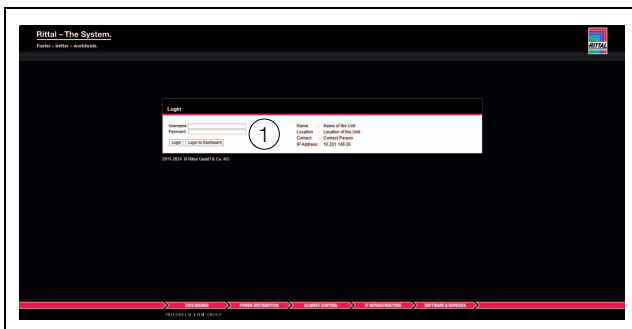
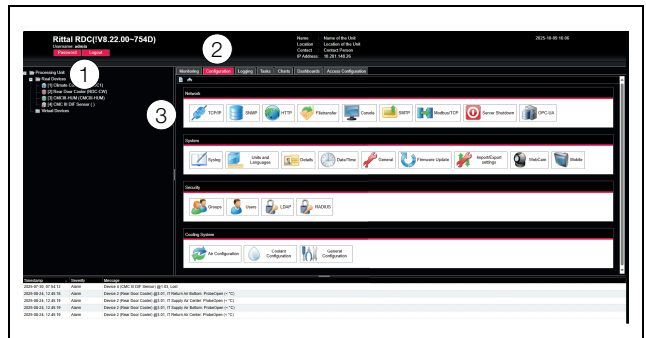

Fig. 57: Log-on screen with an HTTP connection
Fig. 58: Adjusting the TCP/IP settings
- Log in with the username **admin** and the password **admin** (fig. 57, item 1). The overview window for the device will appear (fig. 58).
- In the left-hand section of the overview window (navigation area), click on the **Processing Unit** entry (fig 58, item 1) and in the right-hand section (configuration area), click on the **Configuration** tab (fig. 58, item 2).
- In the group box Network, click on the TCP/IP button (fig. 58, item 3).